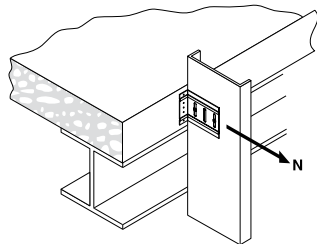

Figure 7:
- 1 Allowable load based on a safety factor of 5.0 in direction shown in Figure 7 above for attachment of deflection slip clip to 4000 psi Normal Weight Concrete Slab.